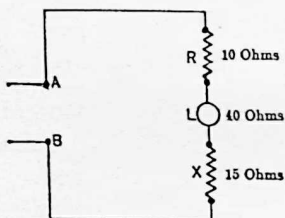

FIG. 30. Series combination.
**Example 2.** In the series circuit of Fig. 30, 3 amperes are flowing.
It should be noted that in solving the Example on page 28, Fig. 30, Ohm's Law was used in (a) to find the voltage necessary to force the current through